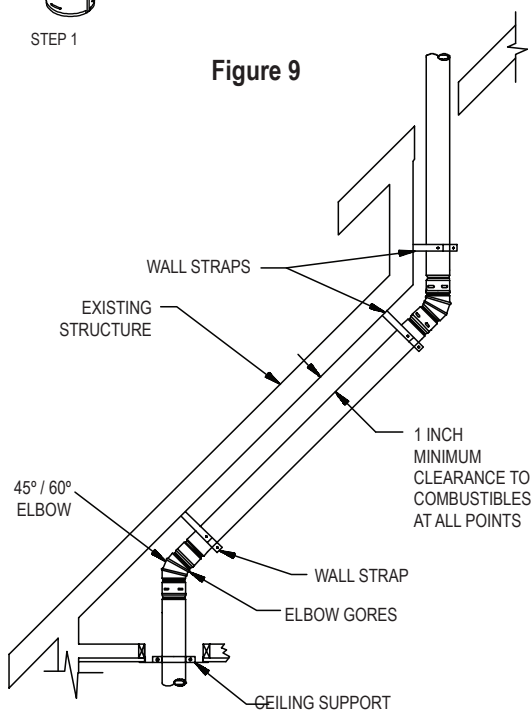
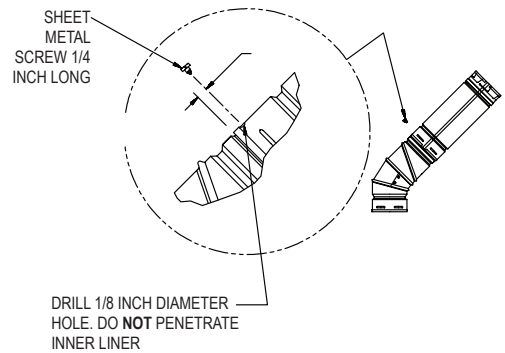

Figure 10
Figure 19
7. Elbows. When Elbows are required, strap the Pipe Sections and/or Elbows in place using Wall Straps. **Important:** the offset must be supported with Wall Straps to prevent the weight from stressing the elbows, as shown in **Figure 10**.
2. Connections. In addition to twist locking the elbows, the connection may be further secured by using sheet metal screws at the joint where the male and female parts overlap, provided that the screws **DO NOT** penetrate the inner liner as shown in **Figure 19**. One screw per joint is normally sufficient. Use #8 Pan Head sheet metal screws which are no longer than 1/4 inch. Wall Straps must be used to support each elbow (**Figure 10**). Do not allow the elbows to support the weight of the vent pipe.